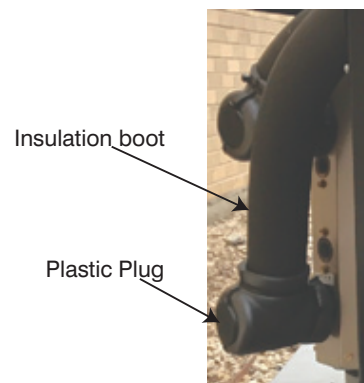

Fig. 16 — Insulation Boots
12. Attach the foam insulation boots over the fittings at the unit. Secure with foam insulating tape (Fig. 16)
14. Insert plastic plugs into the insulation boots (Fig. 16).